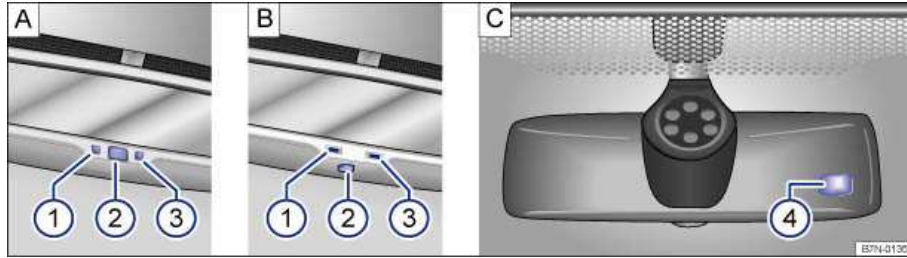

Fig. 85 Self-dimming rearview mirror (if equipped).
Key to fig. 85:
- One sensor on the side facing the interior to measure light from *the rear* of the vehicle ⇒ fig. 85 A \(3\) or ⇒ fig. 85 B \(3\).
- One sensor on the side facing the windshield to measure light from *the front* of the vehicle ⇒ fig. 85 C \(4\).